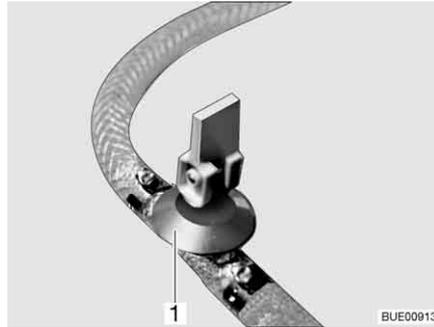
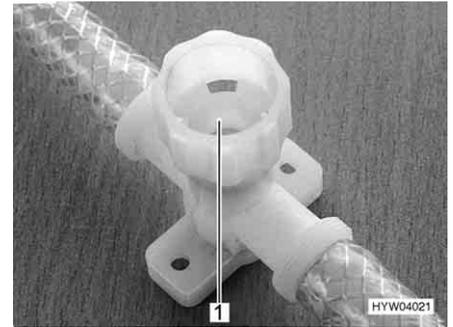

Fig. 250 Drain cock (with rocking lever)
Fig. 251 Drain cock (with twist cap)
- Open all drain cocks. To do this, position the drain cock's rocking lever (Fig. 250,1) vertically or turn the drain cock's cap (Fig. 251,1) in an anti-clockwise direction.